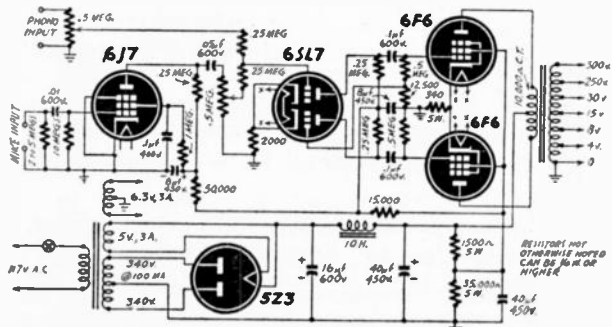

Fig. 406
A. The diagram (Fig. 406) is designed to meet your needs, using your transformer. All resistors, chokes, and condensers are specified. The input to the 6J7 grid will probably need shielding. To place all parts on a small chassis will require more care in shielding and placement.